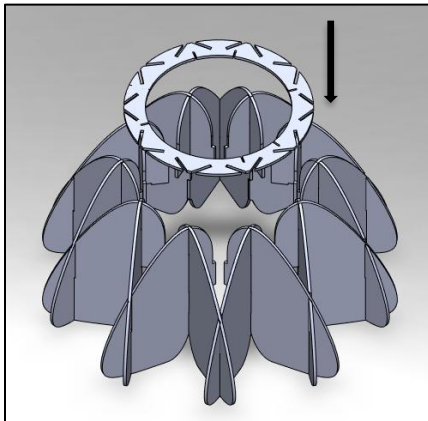

FIG. 14 – SUPPORT RING/ACOSUTIC PANEL CONNECTION
2. Once all the panels are connected, grab the support ring and place it on top of the acoustic panels. Then slide the ring down into position, adjusting everything as needed to ensure a proper fit (as shown below in FIG. 14).